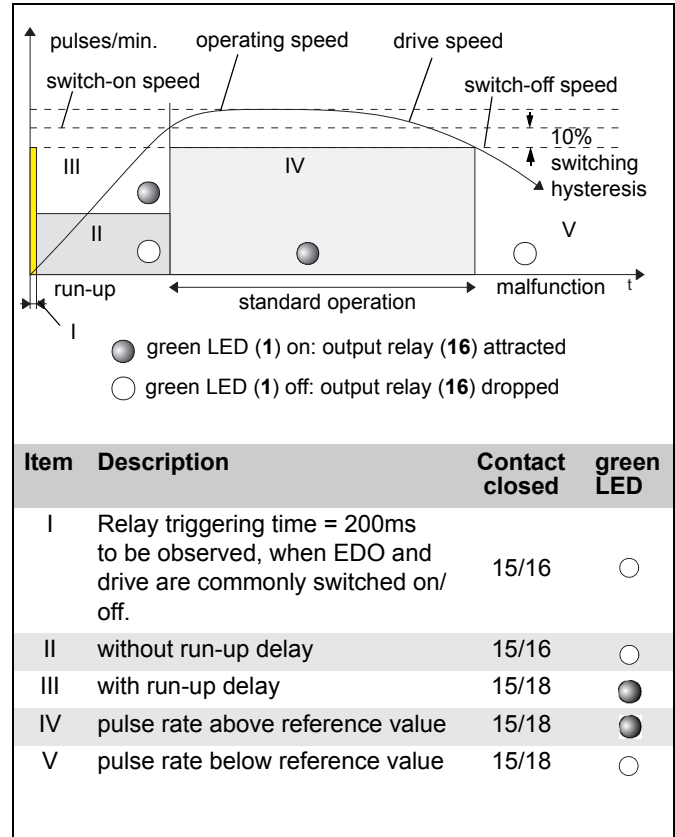

Fig. 3-3: Time chart for low speed monitoring device
If the set speed is not reached, the output relay (16) drops and the green LED (1) extinguishes (s. fig. 3-3).